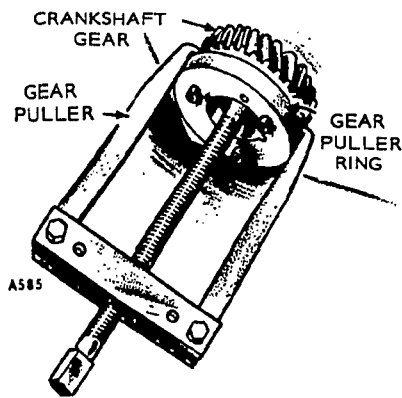

FIGURE 102. REMOVING CRANKSHAFT GEAR
2. Pull off crankshaft gear, Figure 102. It has two 1/4-20 UNC tapped holes for attaching a gear pulling ring (ONAN tool 420-0275). Use care not to damage teeth if gear is to be reused.